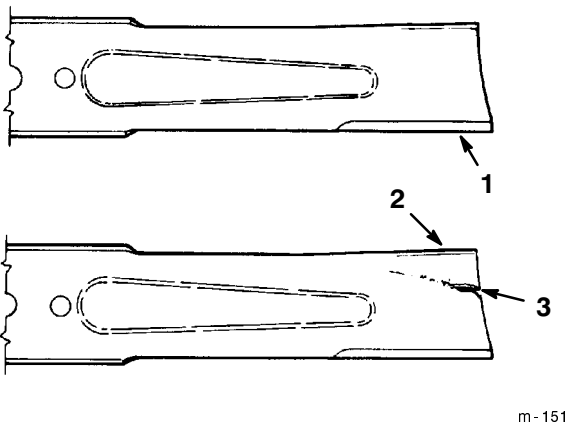

Figure 14
1. Inspect the cutting edges (Fig 14). If the edges are not sharp or have nicks, remove and sharpen the blades. Refer to Sharpening the Blades on page 38.
2. Inspect the blades, especially the curved area (Fig. 14). If you notice any damage, wear, or a slot forming in this area (item 3 in Fig. 14), immediately install a new blade.